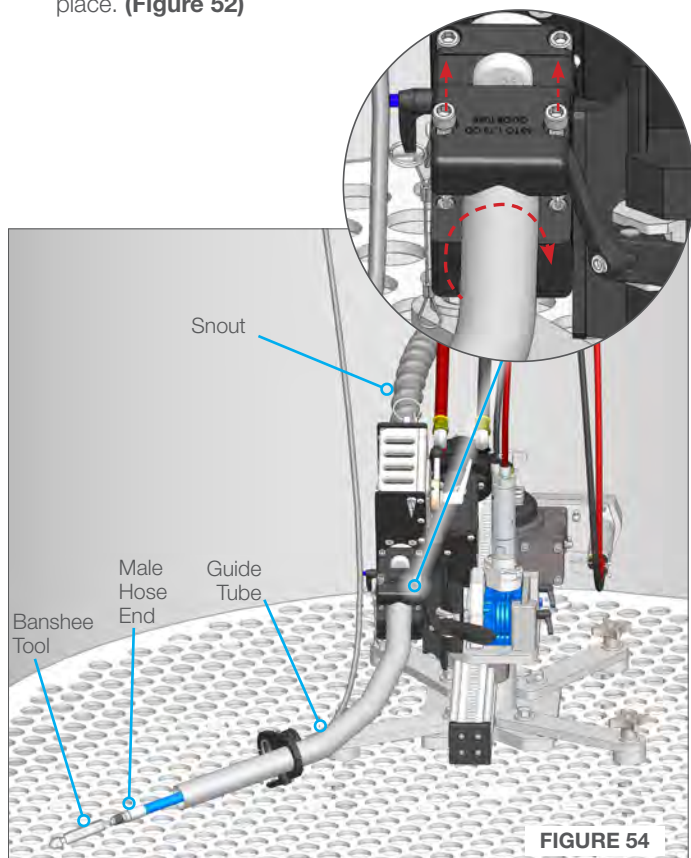

FIGURE 54
1. Loosen the Collet Block Cap and rotate the Guide Tube 90° to Install Banshee Tool onto the High-Pressure Hose. Rotate the Guide Tube back so that the Tool is facing the tube face. **(Figures 54 & 55)**